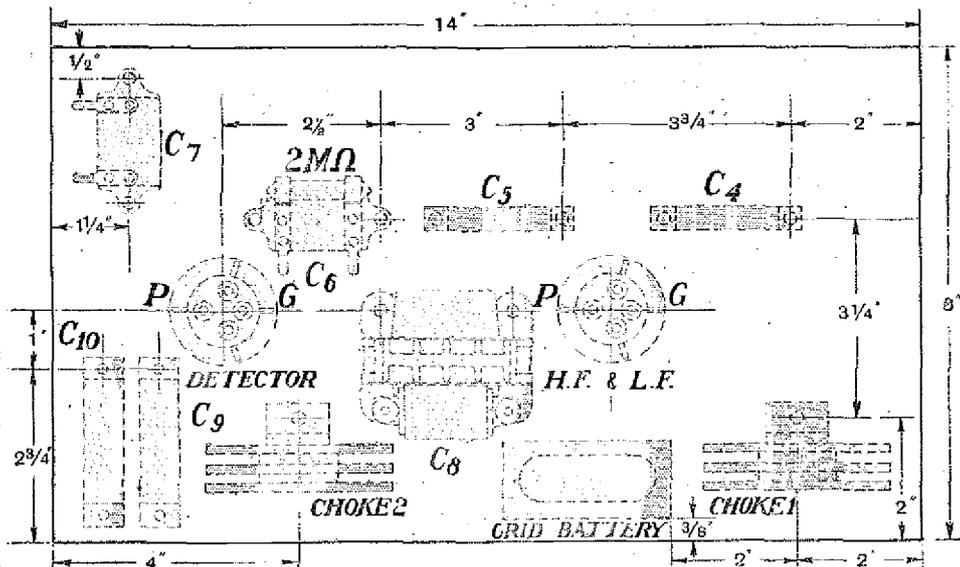

Fig. 4.—Arrangement of parts on the base.
**The Base.**—The base is a piece of mahogany, measuring 14 in.  $\times$  8 in.  $\times$   $\frac{3}{8}$  in. On it the reader may fix at once the valve holders, fixed condensers, and transformers. Fig. 4 gives the position of these parts; they may be secured with  $\frac{1}{2}$  in. No. 4 round head brass screws.
The position of the chokes is indicated in Fig. 4 and in the coloured wiring diagram.